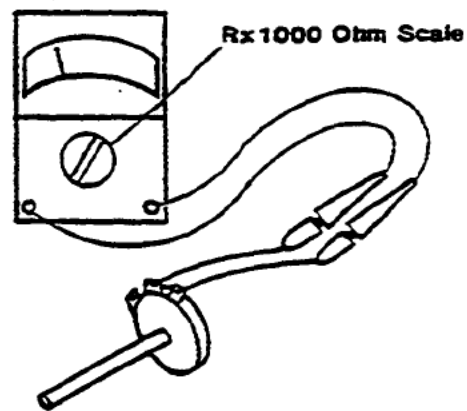

Figure 5-8. Potentiometer Test Connection
7. Remove potentiometer and measure its resistance. The resistance should be between 10,000 and 15,000 ohms (see Figure 5-8).
8. Disconnect potentiometer, the contactor(s) should turn off immediately. Measure the resistance of the potentiometer. The resistance should be between 10,000 and 18,000 Ohms (see Figure 5-8).